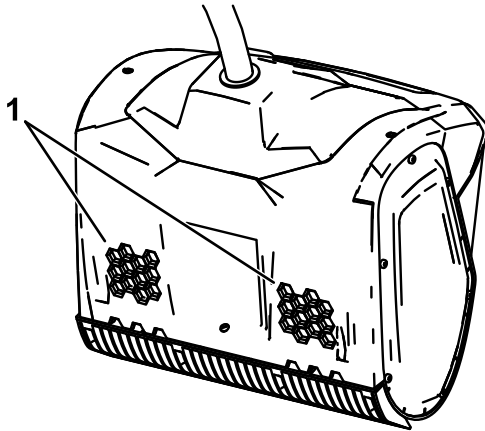

Figure 10
1. Ensure that the vents on the back of the machine are clear of any snow or ice (Figure 10).